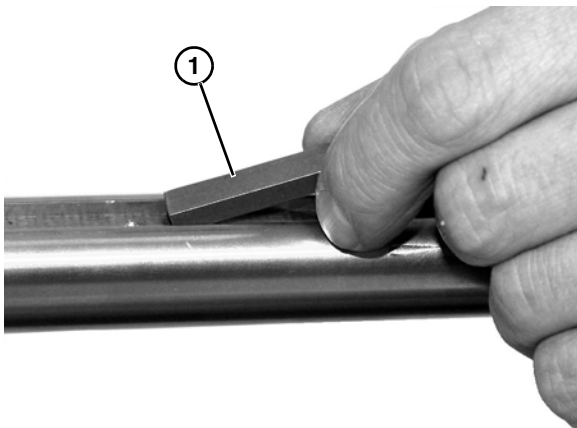

Figure 28
3. Remove output shaft key (**Figure 28, item 1**).